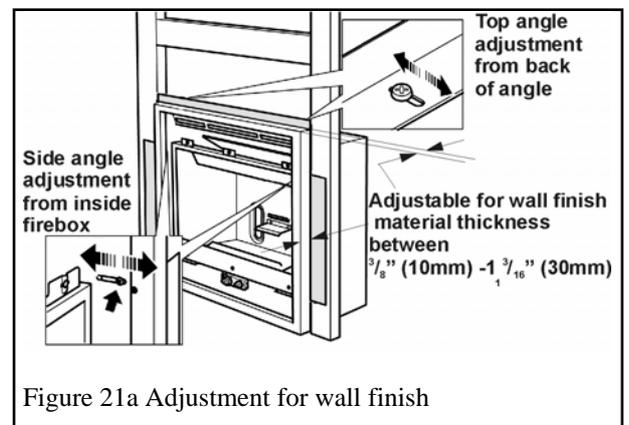

Figure 21a Adjustment for wall finish
- Check the wall finish requirements with the homeowner. If necessary, adjust the position of the heater so that the distance from the front of the heater case to the angles is suitable for the thickness of the wall finish (e.g. tile, etc.) – see figure 21a.